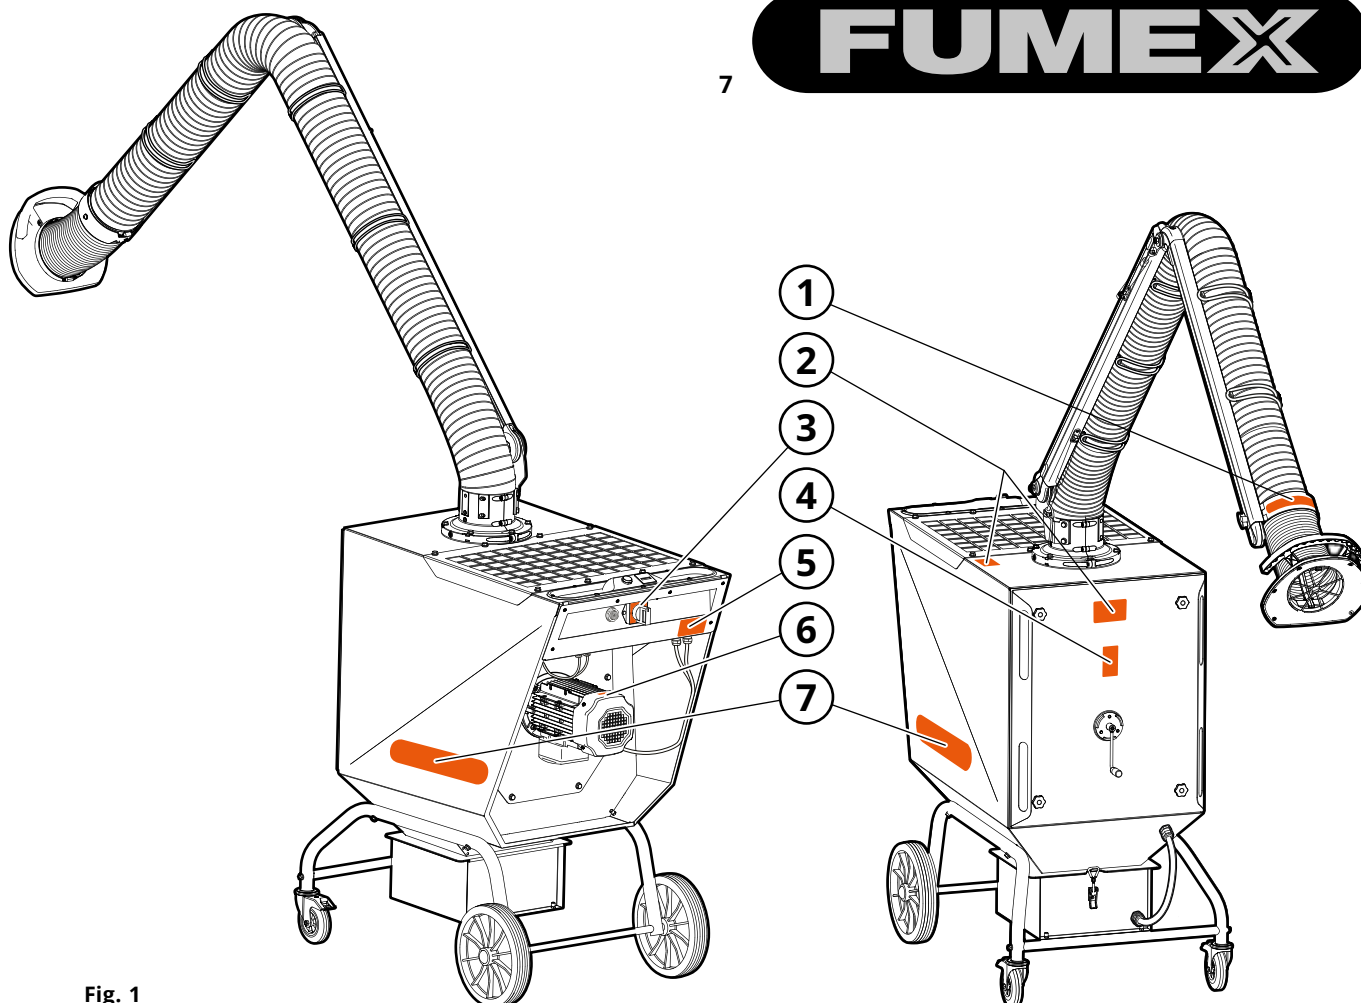
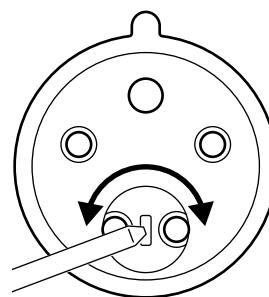

Fig. 1
Fig. 16
According to **Fig. 1**.
3. Check the rotational direction of the fan motor. The fan motor rotation direction is checked by starting the fan, then stopping the fan. When the speed decreases, you can see which way your engine rotates through the hood for the fan cooling (where the decal is located, according to **Fig. 1** pos. 6). If the direction of rotation is incorrect, use a flat screwdriver to reverse the phase on the plug as shown in **Fig. 16**.